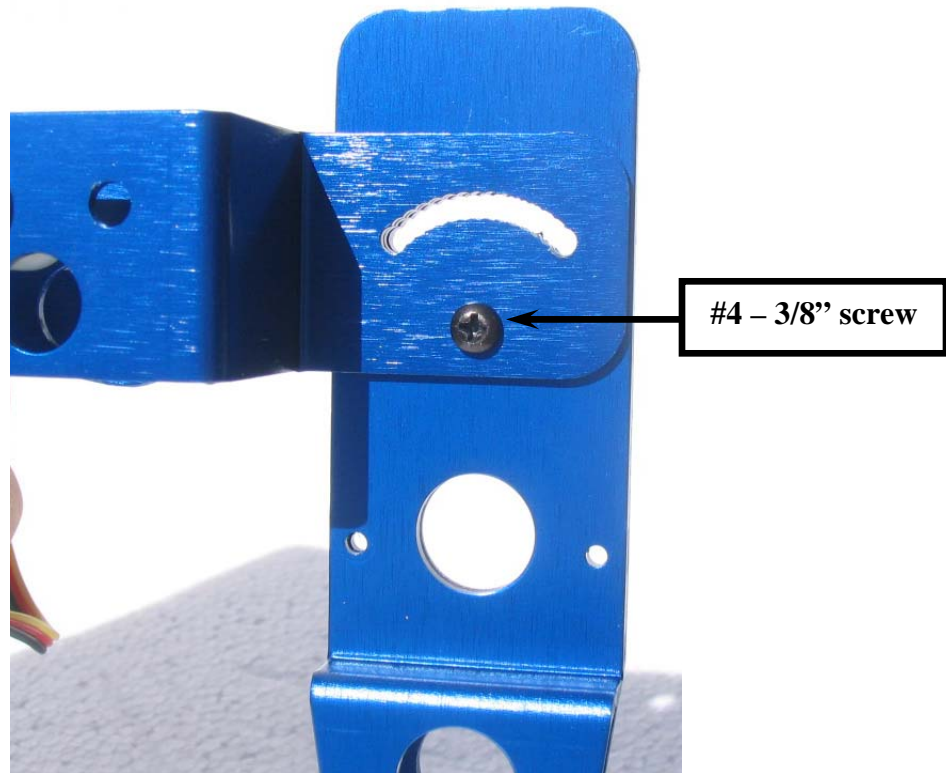

Figure 8
- Using (1) #4 – 3/8" screw and lock nut, install the leg assembly to the leg actuator assembly as shown in figure 8. Ensure that the front leg is oriented towards the front of the assembly. Ensure that the leg assembly is perpendicular with the leg actuator assembly before tightening the #4 lock nut.